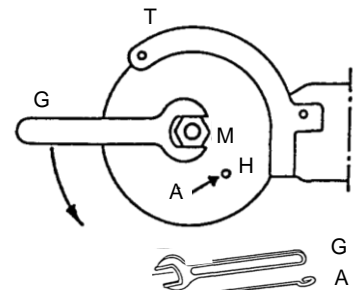

Fig. 7.2 – Loosening the saw blade
- 2) Insert the retention pin (A) into the hole in the saw blade (H) and turn it with the saw blade against the protective hood (T). Place open-end wrench (G) on hexagon clamping nut (M) and open in the direction shown, see Fig. 7.2.
- 3) Carefully remove the hexagon clamping nut (M) and the saw blade.